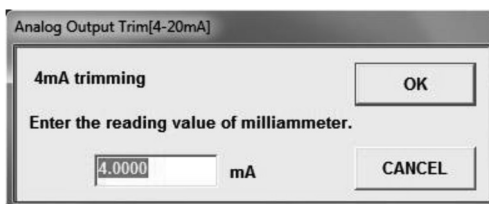

Fig.44
- ③ A window like the one shown in Fig. 44 appears. Enter the present reading of the milliammeter which registers an output and Click on "OK" button.